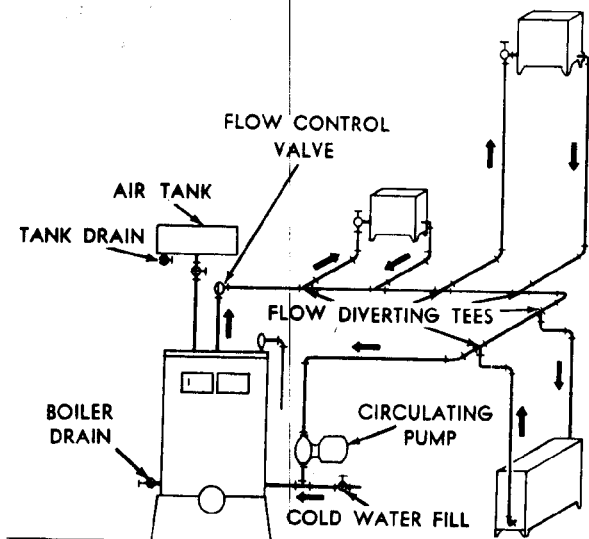

Figure 4-13. Closed one-pipe forced-circulation system.
(2) *Closed one-pipe forced-circulation system.* The general arrangement of a closed one-pipe forced-circulation system (fig. 4-13) is the same as for one-pipe gravity systems. Circulation to individual radiators can be improved by the use of special supply and return